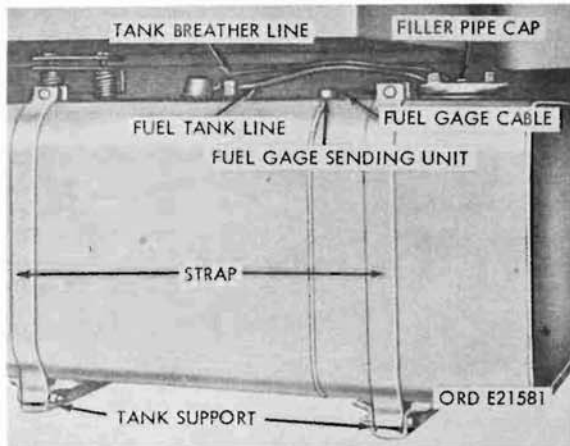

Figure 118. Fuel tank disconnect points.
a. Removal (Fig. 118). Drain the fuel tank. (Refer to TM 9-2320-209-10.) Loosen the nuts at the bottom ends of the holding straps. Remove the screws and nuts at top ends of the holding straps, and slide the tank out on the fuel tank supports to clear the disconnect points from the body. Disconnect the fuel-gage cable, fuel tank line, and fuel-tank breather line from the top of the tank. Remove the tank. (Refer to TB ORD 524 for cleaning and preserving of fuel tank(s).)
b. Installation (Fig. 118). Position the fuel tank on the supports. Connect the fuel-gage cable, fuel tank line, and fuel-tank breather line to connections at the top of the fuel tank. Place the holding straps in position and secure
(1) When replacing any lines, fittings, or shutoff valve, coat all threaded elbow, tee, or valve connections with liquid type gasket cement before installation. Tighten all connections. Secure all lines with clips provided.
(2) To replace the shutoff valve, first drain the fuel tank (TM 9-2320-209-10). Disconnect the fuel tank line (fig. 118), fuel pump flexible line, and primer pump line, where pre-
- (3) Loosen nut at bottom end of each tank strap (fig. 118). Remove screw and nut at top end of each strap and lower straps. Remove tank.